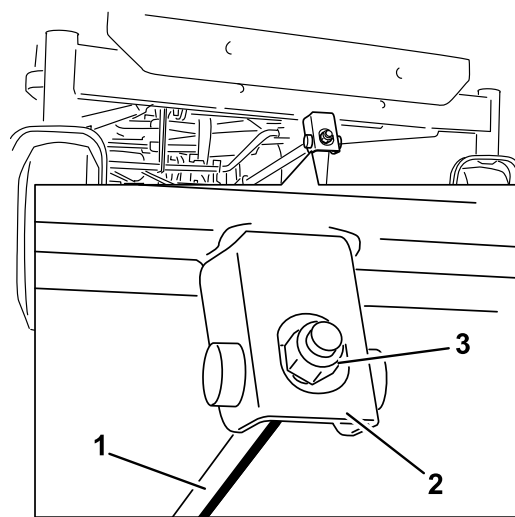

Figure 63
- A. Rotate the adjustment nut in the front of the mower (Figure 63).